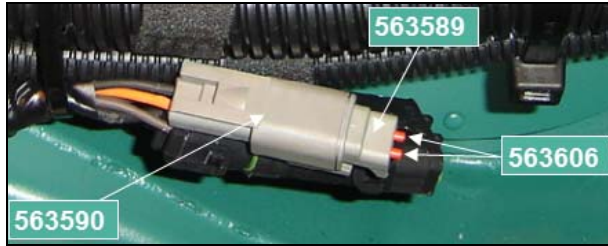

FIGURE 25: DEUTSCH CONNECTOR
- 3) **Installation of gray connector** (FIGURE 23, FIGURE 24, FIGURE 25). Inside the remaining section of the harness (previous steps), identify separate circuits 9B and 0RA2. Install a Deutsch DTM connector. This connector is installed as provision for further use if needed.